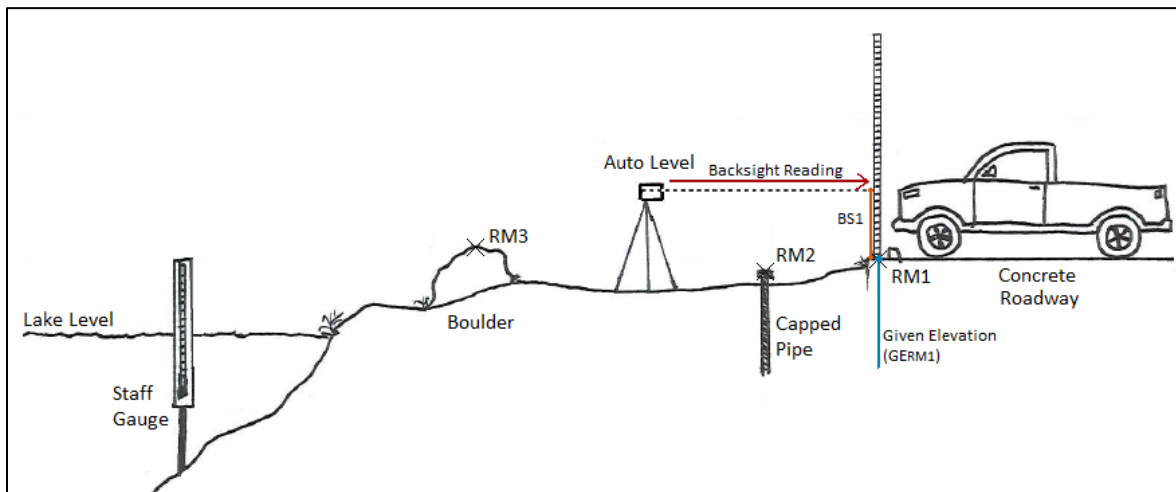

Figure 6. Back sight reading (BS) of a reference mark (RM) with an auto level and stadia rod
4. Have a partner place the stadia rod on the first reference mark (RM1). Then read the height of the rod through the instrument (intersection of the cross-hair with the marks on the stadia rod). This reading is called your back sight reading, BS (Figure 6). Record it as BS1 on the data sheet.